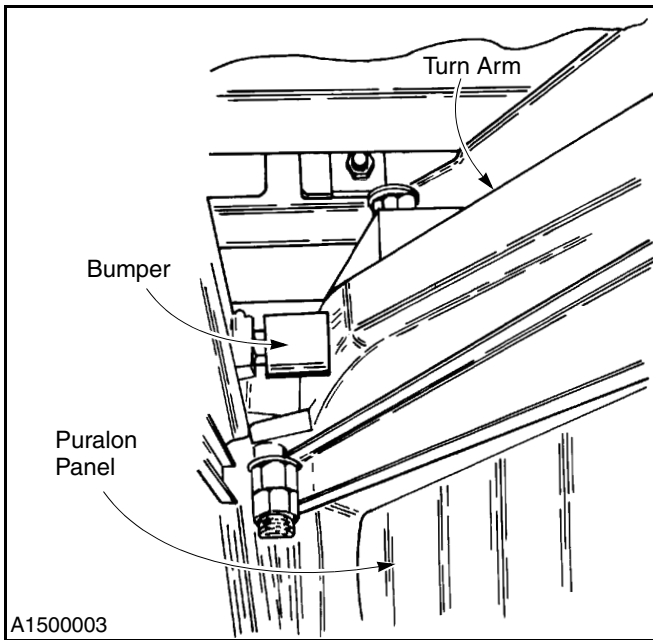

Figure 11
2. Check that the door is in the fully open position. If the door is not open all the way, the leading panels will be inside the door opening. If the door is open too far, the rubber bumpers between the turn arms will be compressed. (See Figure 11.)